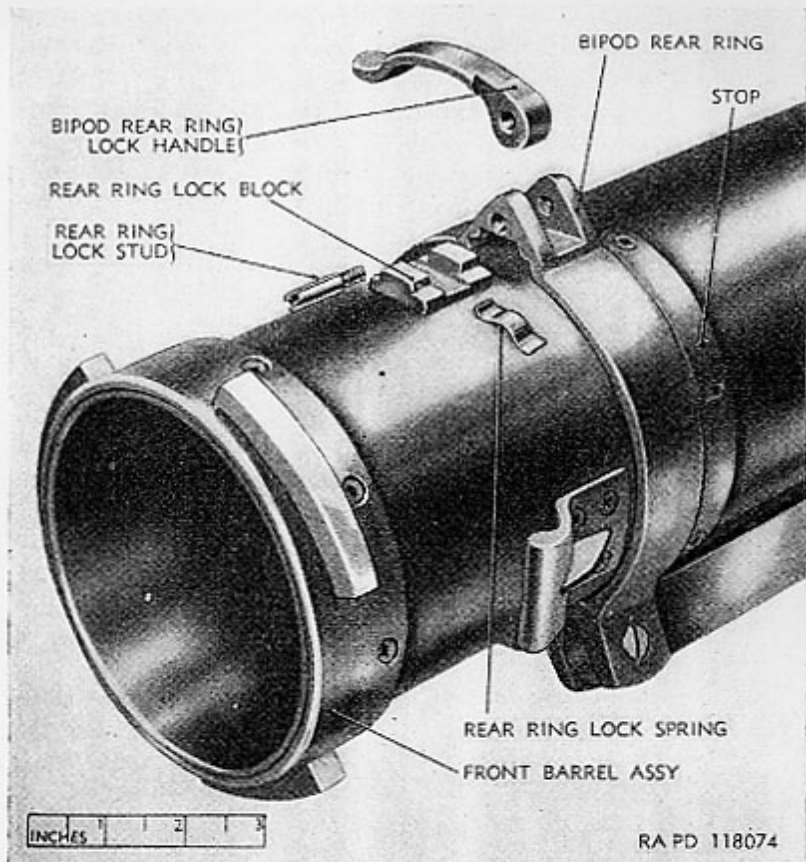

Figure 23. 3.5-inch Rocket Launcher M20 (early manufacture)—rear ring lock parts exploded.
c. **BIPOD REAR RING LOCK.** Some M20 launchers are equipped with a continuous ring-type bipod rear ring (fig. 23).
(1) To remove the lock handle from this type of bipod rear ring, proceed as follows:
(2) To install the lock handle in the bipod rear ring, proceed as follows:
d. **BIPOD LEG LOCK BUTTONS.** Check the functioning of the bipod leg lock buttons. If they fail to hold the bipod securely in the folded position, remove them from the front ring assembly (par. 45a (1)). Discard the leg lock button springs and replace them with new springs.
e. **BIPOD SLIDE BLOCK CATCH.** Check the functioning of the bipod slide block catch. If it fails to properly engage the ratchet or notches on the bipod slide so as to hold the bipod in extended position, remove the catch (par. 45e (1)). Discard the catch spring and replace it with a new spring.
f. **BIPOD TRIP.** Check functioning of the bipod trip. If the trip fails to return to its original position after being operated, remove the trip (par. 45b (1)). Discard both trip springs and replace them with two new springs.
(1) For M20 launchers equipped with bipod rear rings of the continuous ring type (fig. 23), remove the handle and block (par. 45c (1)). Discard the bipod rear ring lock spring and replace it with a new spring.